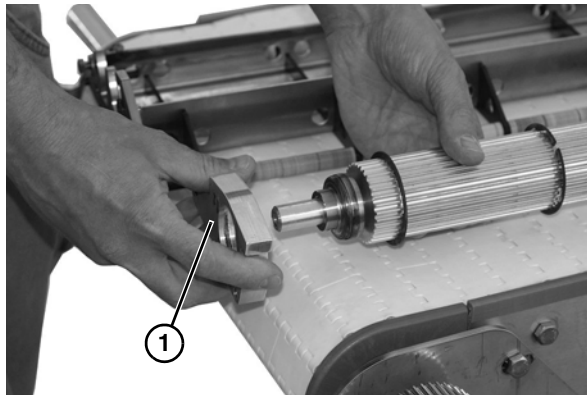

Figure 38
5. Remove bracket (**Figure 38, item 1**) from each side of shaft assembly by sliding it off the bearing. Be certain to note location and orientation of left and right sides.